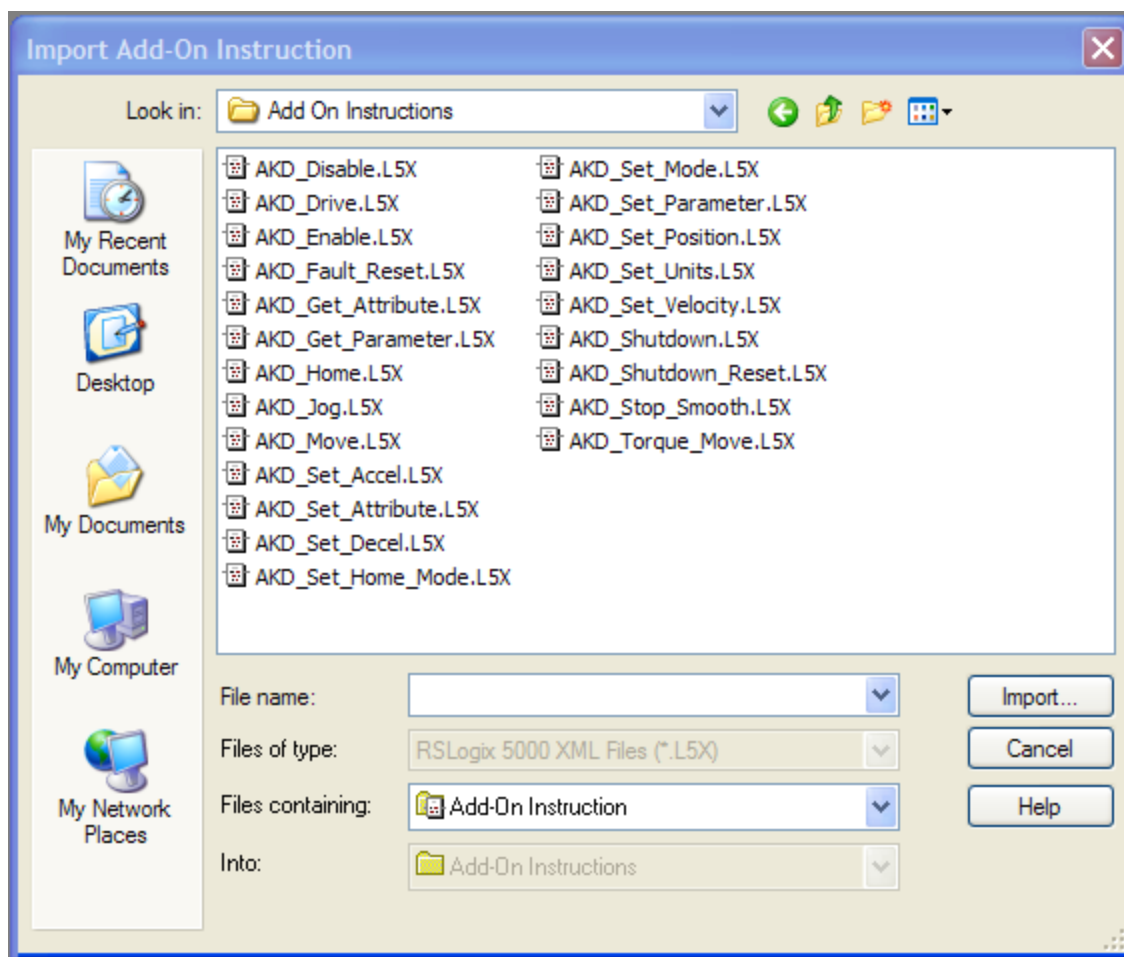

Figure 4-10: Selecting an AIO
6. Browse to the location of the AKD Add On Instruction library and select the desired AOI then click “Import...” (Figure 4-10: Selecting an AOI)